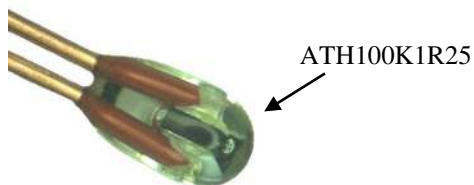

Figure 4.1. Bare Ledged Thermistor Head Photo
1. Do not bend the thermistor leads at the location that is too close to the thermistors body, to avoid breaking the glass coating, as shown in Figure 4.1, Figure 4.2, and Figure 4.3 below. Only bend the leads at the location that is at least 2mm away from the thermistor body.